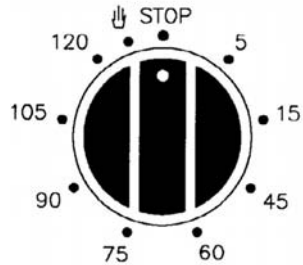

Fig. 4
**Programming your oven with electrical 120 minutes cut-off timer - Fig. 4**
If the cooking time is longer than the 2 hours programme, or if you wish to use the oven manually, to turn it off when you desire, turn the knob to position  (Fig. 4).